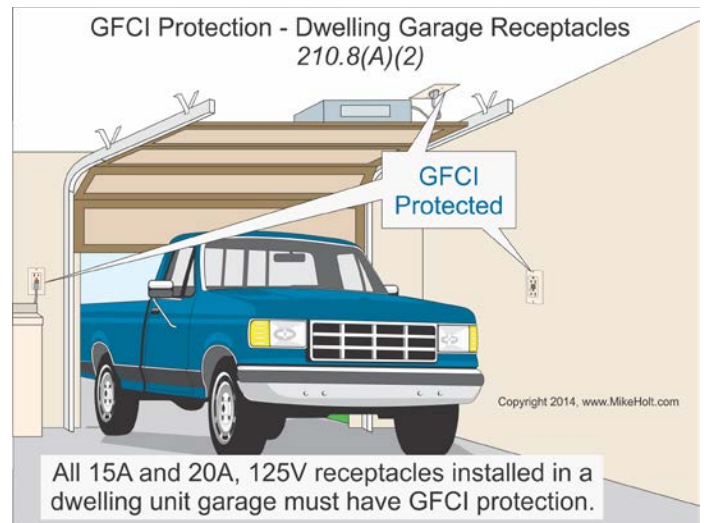

Figure 210-24
(2) Garages and Accessory Buildings. GFCI protection is required for all 15A and 20A, 125V receptacles in garages, and in grade-level portions of accessory buildings used for storage or work areas of a dwelling unit. *Figure 210-24*